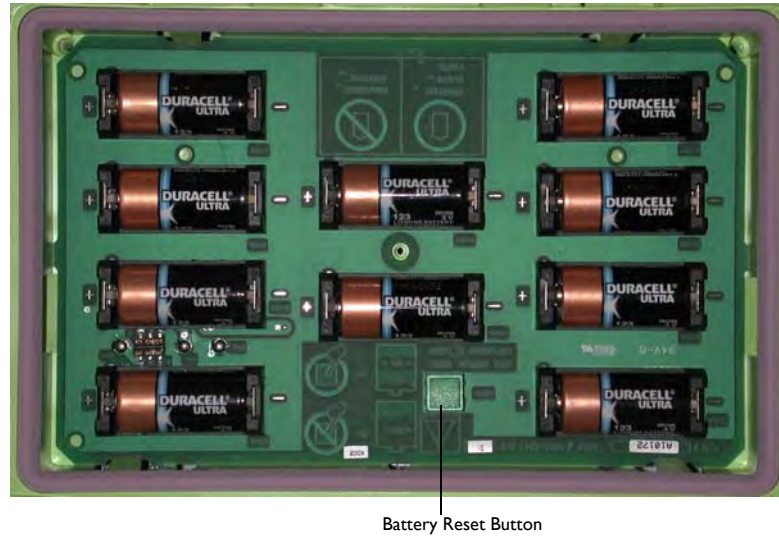

Figure 8: Battery Compartment
3. After installing new batteries, press the Battery Reset Button inside the battery compartment when prompted (see Figure 8). Pressing the button resets the battery usage indicator to full charge.